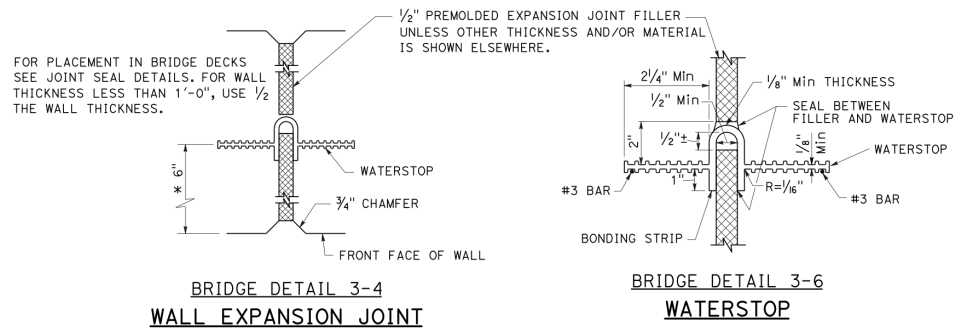

Figure 1 — Standard CalTrans Waterstop Details.
- A. Position waterstop in joint as indicated on drawings (See Figure 1).
- D. Ensure center U-shape is not embedded at expansion joints. Use the specified brand of expansion joint filler above and beneath the waterstop U-shape (See Figure 1).
- F. Staple, nail, or screw waterstop bottom leg at the bonding strip underneath the waterstop legs (See Figure 1).